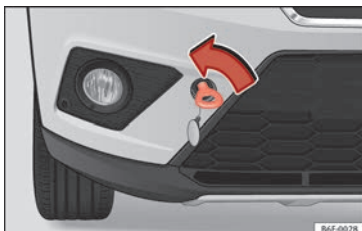

Fig. 106 Right side of the front bumper: towline anchorage screwed in.
- Bolt the anchorage to its limit to the *left*, in the direction of the arrow » **Fig. 106.**